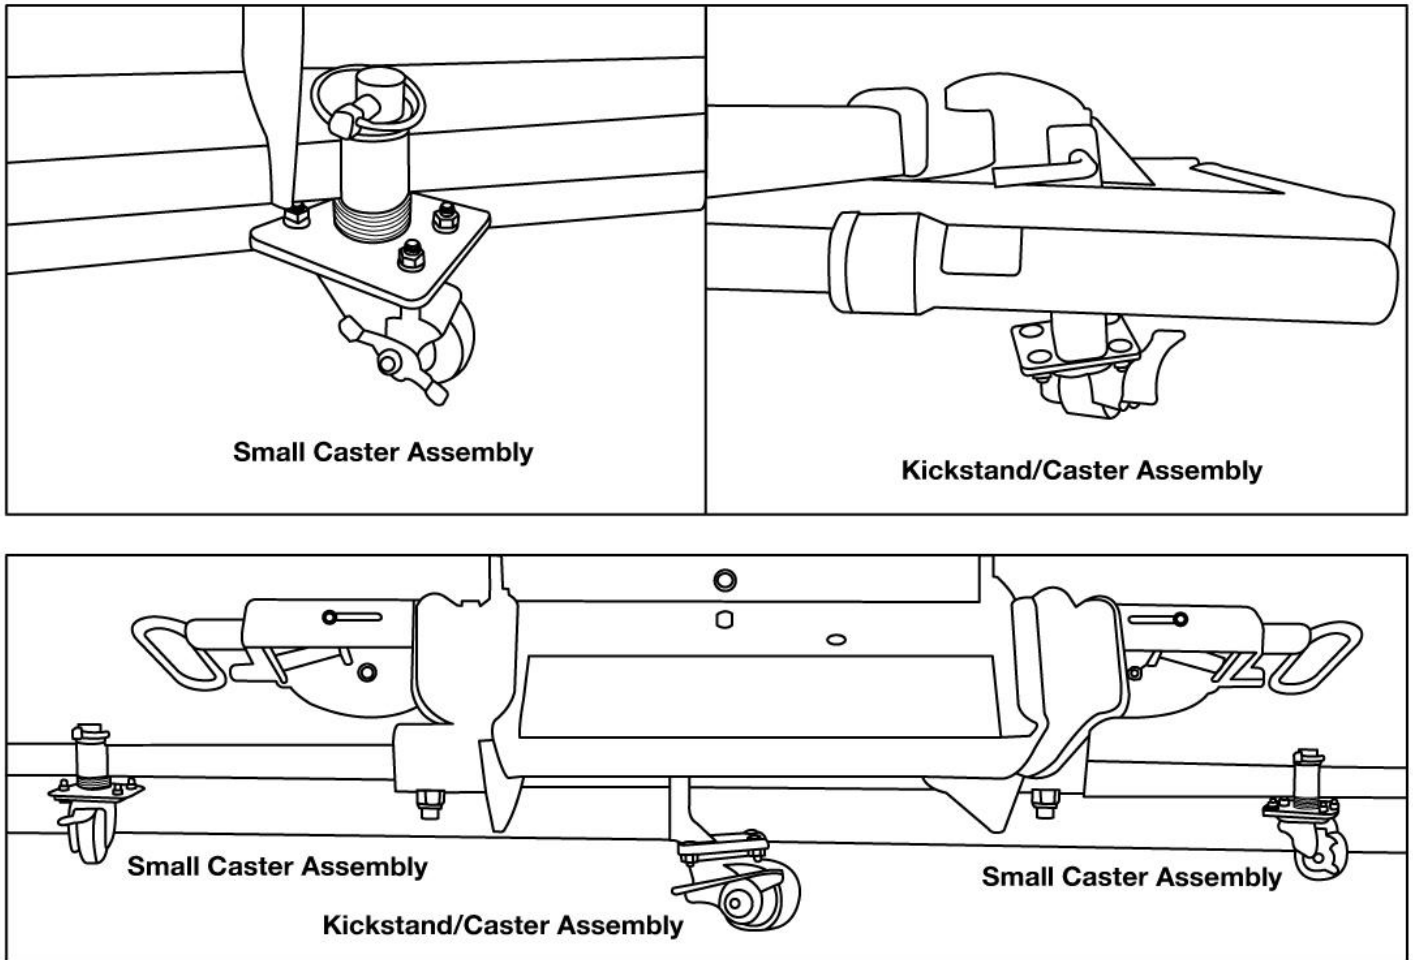

Figure 2. Caster Kits, STB Casters Shown Installed on a STB Note: Sport Duty need shoe brackets
2. Remove any plow shoes and store. Install small 3" caster assemblies in both shoe holders as shown in Fig. 2 upper left view (adjust washers as needed above/ below shoe holder). Be sure to lock them in with the quick pin.